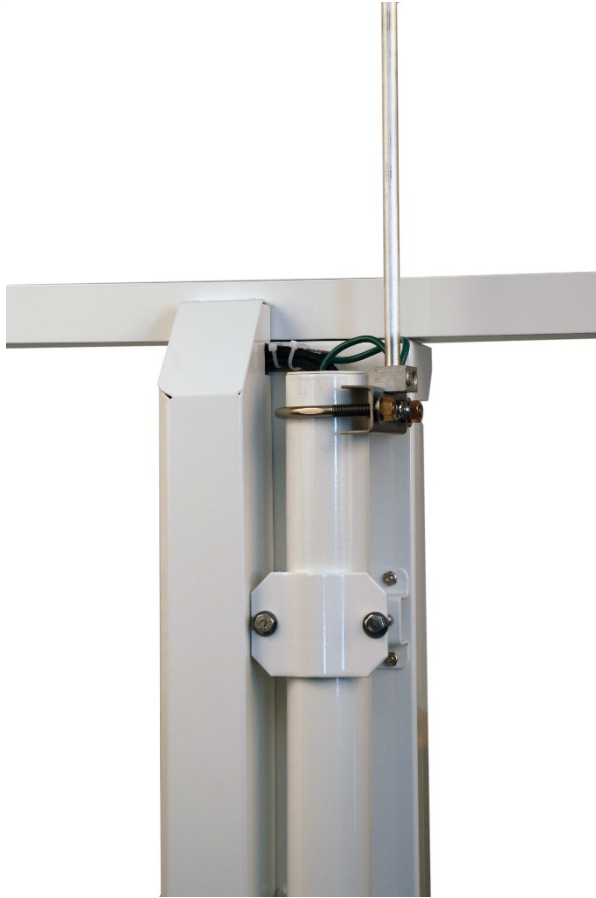

FIGURE 2-46. Connector Cover in Place
6. Tighten down the wire ties holding cabling to the wire tie harness and clip off any excess. See FIGURE 2-46.